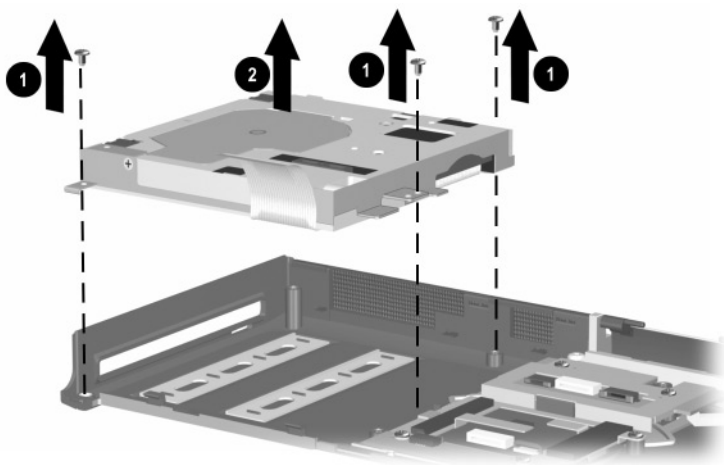

Figure 5-30. Removing the Diskette Drive
4. Remove the three TM2.5 × 5.0 screws ❶ that secure the diskette drive to the palm rest (Figure 5-30).
5. Remove the diskette drive ❷ from the palm rest.